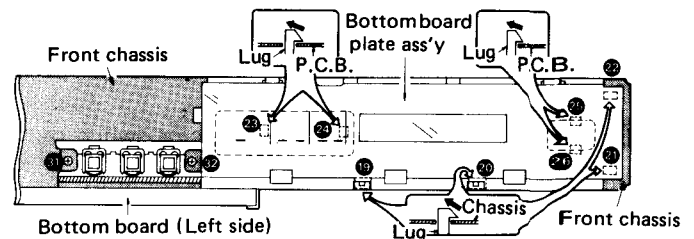
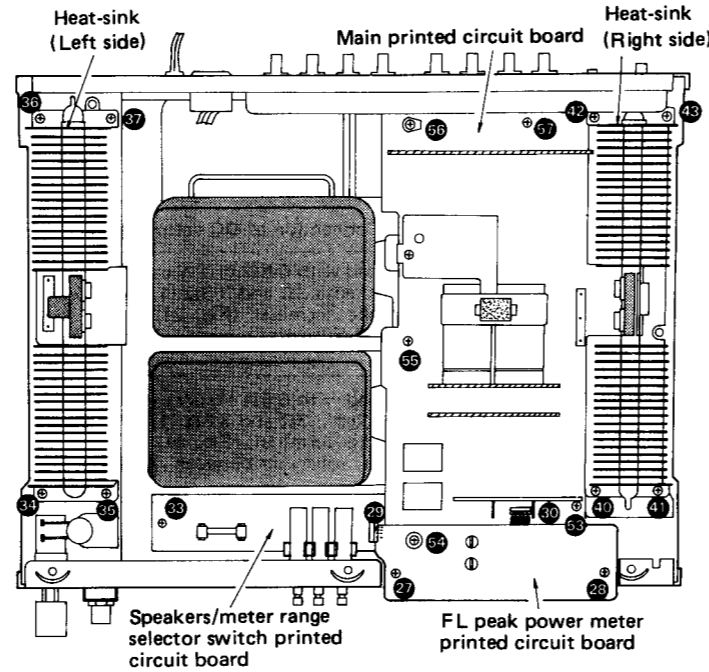

Fig. 10
Fig. 11
3. As shown in Fig. 10, 11 lugs (19 ~ 22) to detach the display window plate ass'y from the front chassis.
4. 4 lugs (23 ~ 26) in Fig. 10) to detach the printed circuit boards from the back of the display window plate ass'y.
5. Remove the 2 setscrews (27, 28) in Fig. 11) of the FL peak power meter printed circuit board.
6. Remove the 2 lead connector (29, 30) in Fig. 11) of the printed circuit board.
4. Remove the 3 setscrews (31 ~ 33) in Fig. 10 and Fig. 11) and cut off the 2 lead clampers.
2. Remove the 4 setscrews (34 ~ 37) in Fig. 11) of the heat-sink.
3. Remove the 4 setscrews (40 ~ 43 in Fig. 11) of the heat-sink.
2. Remove the 4 setscrews (34 ~ 37 in Fig. 11) of the heat-sink.
6. Remove the 4 setscrews (40 ~ 43 in Fig. 11) of the Heat-sink.
7. Remove the 5 setscrews (53 ~ 57 in Fig. 11) of the main printed circuit board.